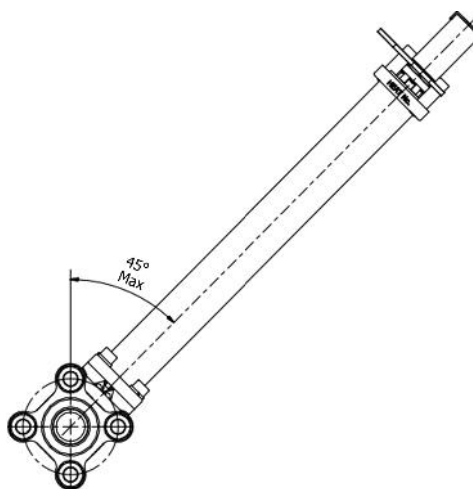

Figure 2. Valve tilting limitations
**2.1.2.** The function of the bonnet of a cryogenic valve is to allow proper heat transfer, and a steep temperature gradient along the bonnet's length between cryogenic temperatures as low as  $-269^{\circ}\text{C}$  /  $-452^{\circ}\text{F}$  and a temperature of around  $-10^{\circ}\text{C}$  /  $14^{\circ}\text{F}$  at the cryogenic ISO toppad. This feature allows the soft parts of the valve gland packing to remain ductile. According to BS 6364 standard a 10 inch (250 mm) cryogenic bonnet shall be installed in the vertical position or inclined up to  $45^{\circ}$  from the vertical axis as shown in figure 2. For confined spaces and systems characterized by high vibration, Microfinish offers a 6 inch (150 mm) bonnet. A cryogenic valve with 6 inch (150 mm) bonnet not compliant with BS 6364. A cryogenic valve with 6 inch bonnet shall be installed only in the vertical position.